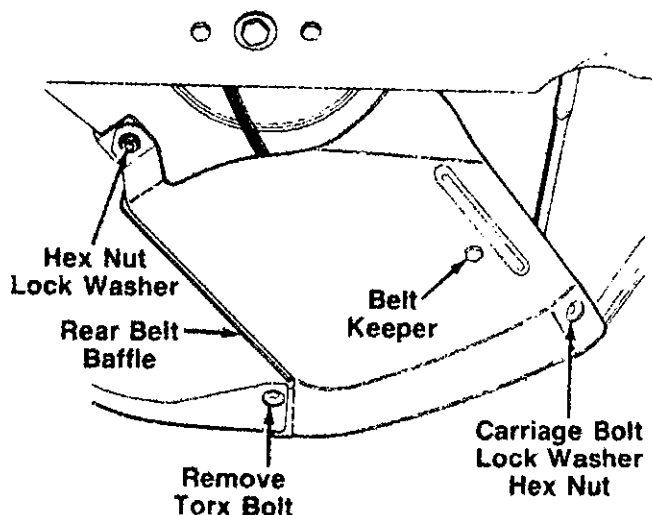

FIGURE 22.
4. Remove the rear belt baffle by removing the lock washer and hex nut shown in figure 22. Then remove one Torx bolt, using a #27 Torx driver. A 9/64" Allen wrench may also be used. Then remove one carriage bolt, lock washer and nut as shown.
NOTE: When reassembling the rear belt baffle, make certain the belt keeper is outside of the belt, and the edge of the rear belt baffle is between the rear chute baffle and the rear panel as shown in figure 22. Make certain to tighten all nuts and bolts securely. If plastic was placed under the gas cap, be certain to remove it.